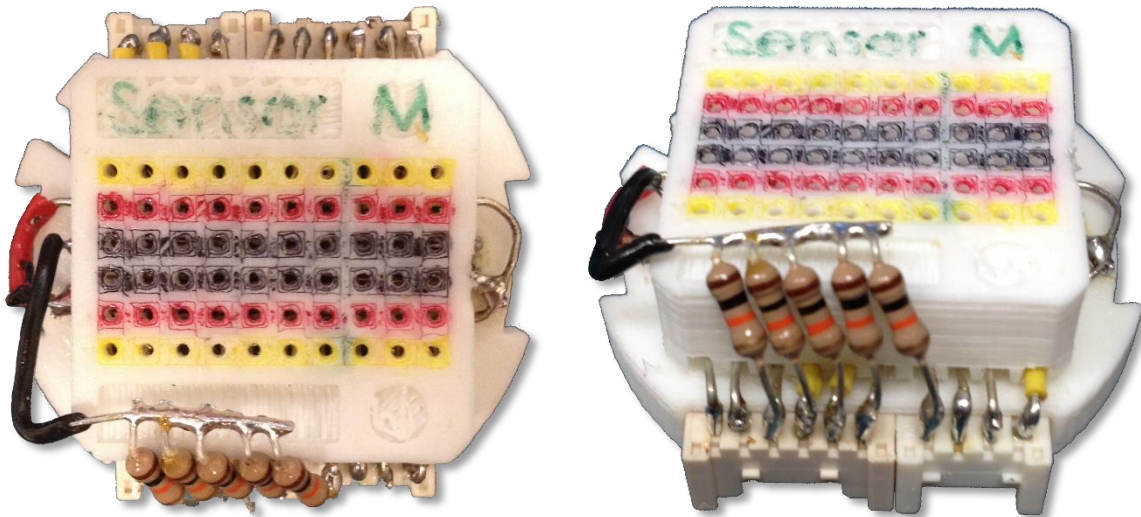

Figure 26: Finished soldered connections for breadboard hub, top and front view
10. Solder the yellow jumper wires to the appropriate receptacle pins, and the 100 kΩ resistors to appropriate receptacle pins as shown in Figure 26: